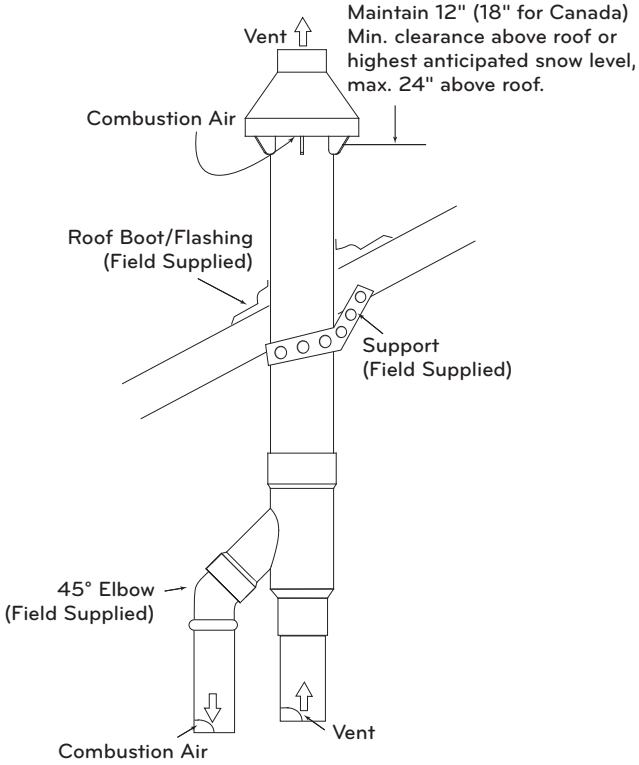

Fig.7-13 Roof Installation
- Install cemented Y concentric fitting and pipe assembly through structure's hole and field supplied roof boot/flashing. See Fig.7-13).
Do not expand dimension "D" more than 60 inches. See Fig.7-13.